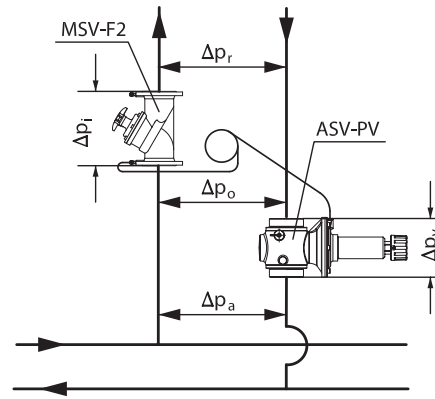

Fig. 2 Setting of  $ASV-PV = \Delta p_{riser} + \Delta p_i$
- partner valve inside control loop (Fig. 2). Offers flow limitation on the riser however part of the controlled pressure range is used by pressure drop on partner valve ( $\Delta p_i$ ). It is recommended when flow limitation on each terminal units is not possible.